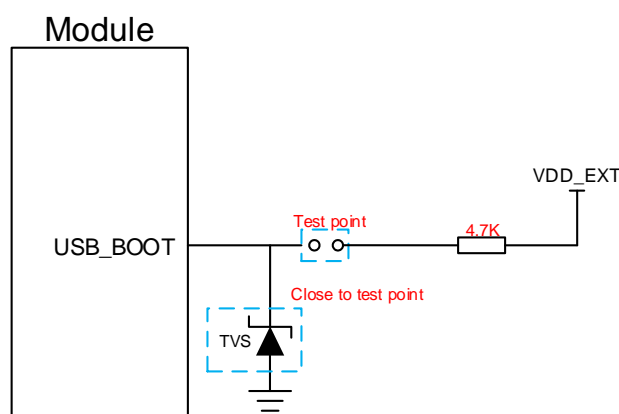

Figure 28: Reference Circuit of USB_BOOT Interface
2. When using MCU to control module to enter the emergency download mode, please follow the above timing sequence. It is not recommended to pull up USB_BOOT to 1.8V before powering up VBAT. Short the test points as shown in **Figure 28** can manually force the module to enter download mode.